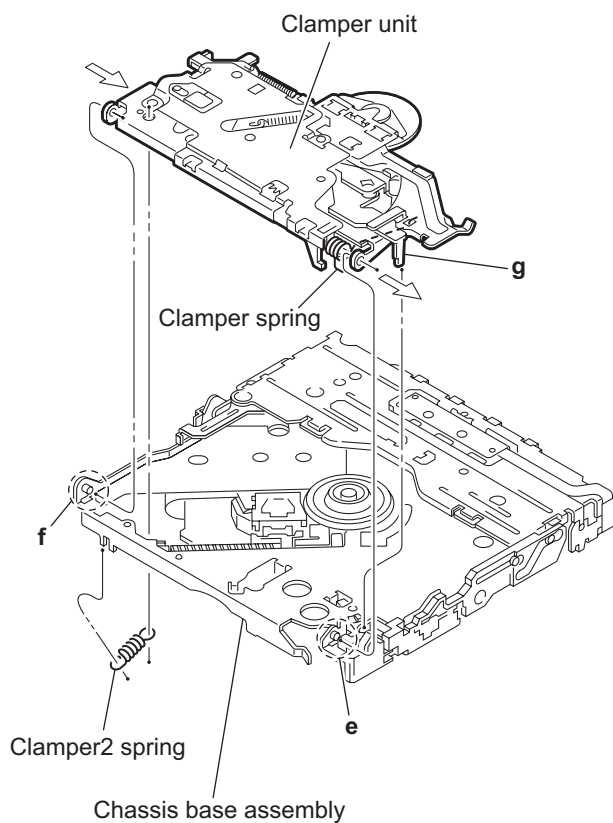

Fig.5
3.4.4 Removing the clamper unit (See Figs.5 to 7)
- (1) Remove the clamper2 spring on the bottom of the mechanism section. (See Figs.5.and 6.)
- (3) Move the clamper unit in the direction of the arrow and turn. Release the two joints **e** and **f**, then remove the clamper unit upward. (See Fig.5.)
3.4.5 Reattaching the clamper unit (See Figs.5 to 9)
- (2) Move the clamper unit to set the side joints **e** and **f** to each boss of the chassis base assembly. Make sure that part **g** is inserted to the notch of the chassis base assembly. (See Figs.5 and 9.)
- (4) Attach the clamper2 spring to the chassis base assembly. (See Figs.5 and 6.)